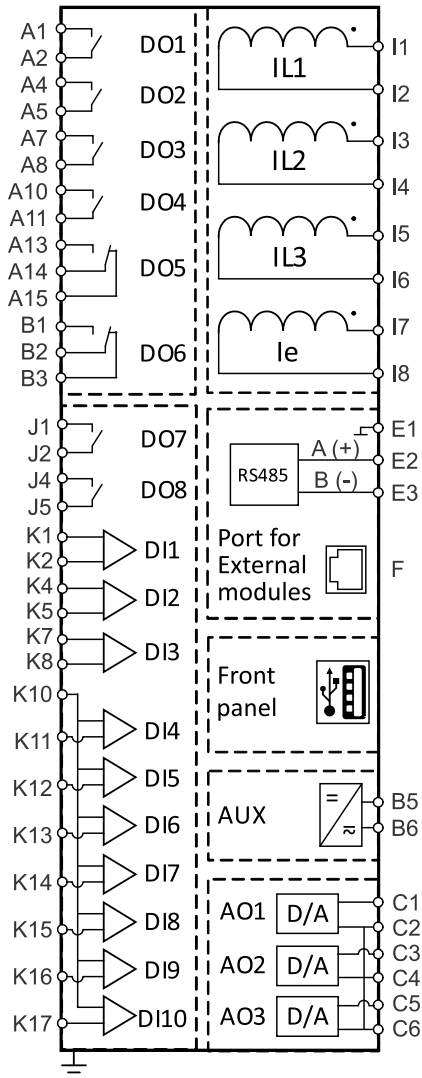
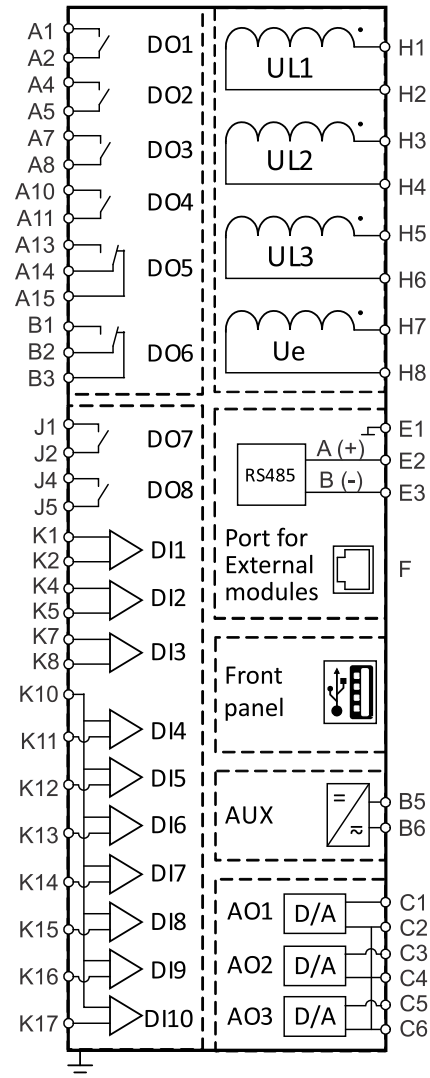

Figure 5.7: Current measurements configuration
Figure 5.8: Voltage measurements configuration
The connection itself also serves as the power supply and communication between the device and external module. The proper RJ45 connector placement on the device can be found in connection scheme, section [5.5.2] on Figure 5.7 and Figure 5.8.
- Connect device to auxiliary power supply according to connection scheme shown on Figure 5.7 or Figure 5.8.